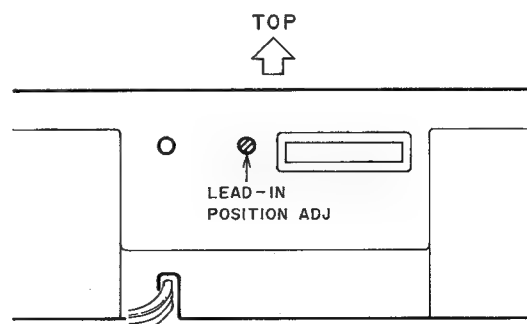

Fig. 5-4 Rear View
5-7. LEAD-IN POSITION ADJUSTMENT (Refer to Fig. 5-4)
- 4) In case the lead-in position is incorrect, it can be adjusted by turning the lead-in position adjuster in Fig. 5-4.